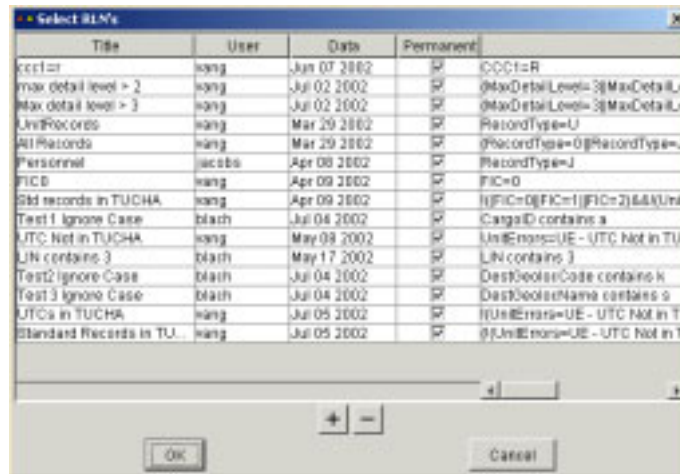

Figure 5.98 Select RLN's Window
2. Click  or on the View menu, click Select RLN's. The Select RLN's window opens (Figure 5.98).